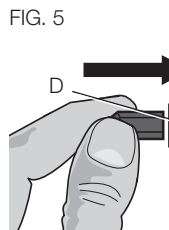
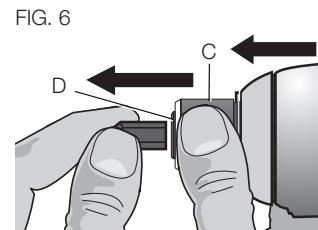

FIG. 5
FIG. 6
To install an accessory, fully insert the accessory. The accessory is locked into place (Fig. 5). **To remove an accessory,** pull the chuck collar (C) away from the front of the tool. Remove the accessory (Fig. 6).